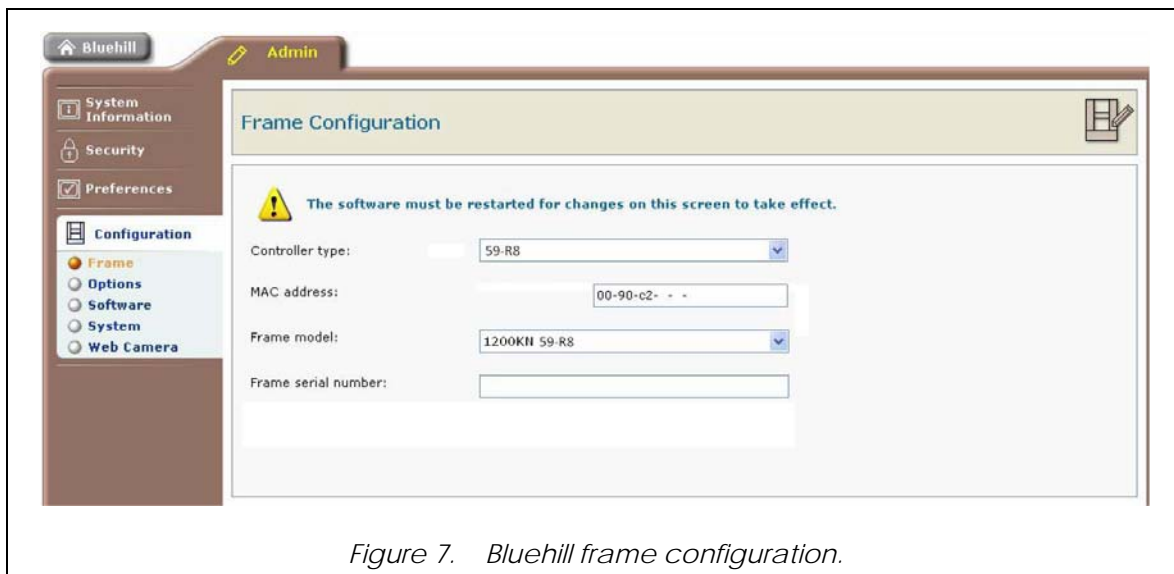

Figure 7. Bluehill frame configuration.
- iv. Select **Frame** in the navigation bar (see Figure 7).